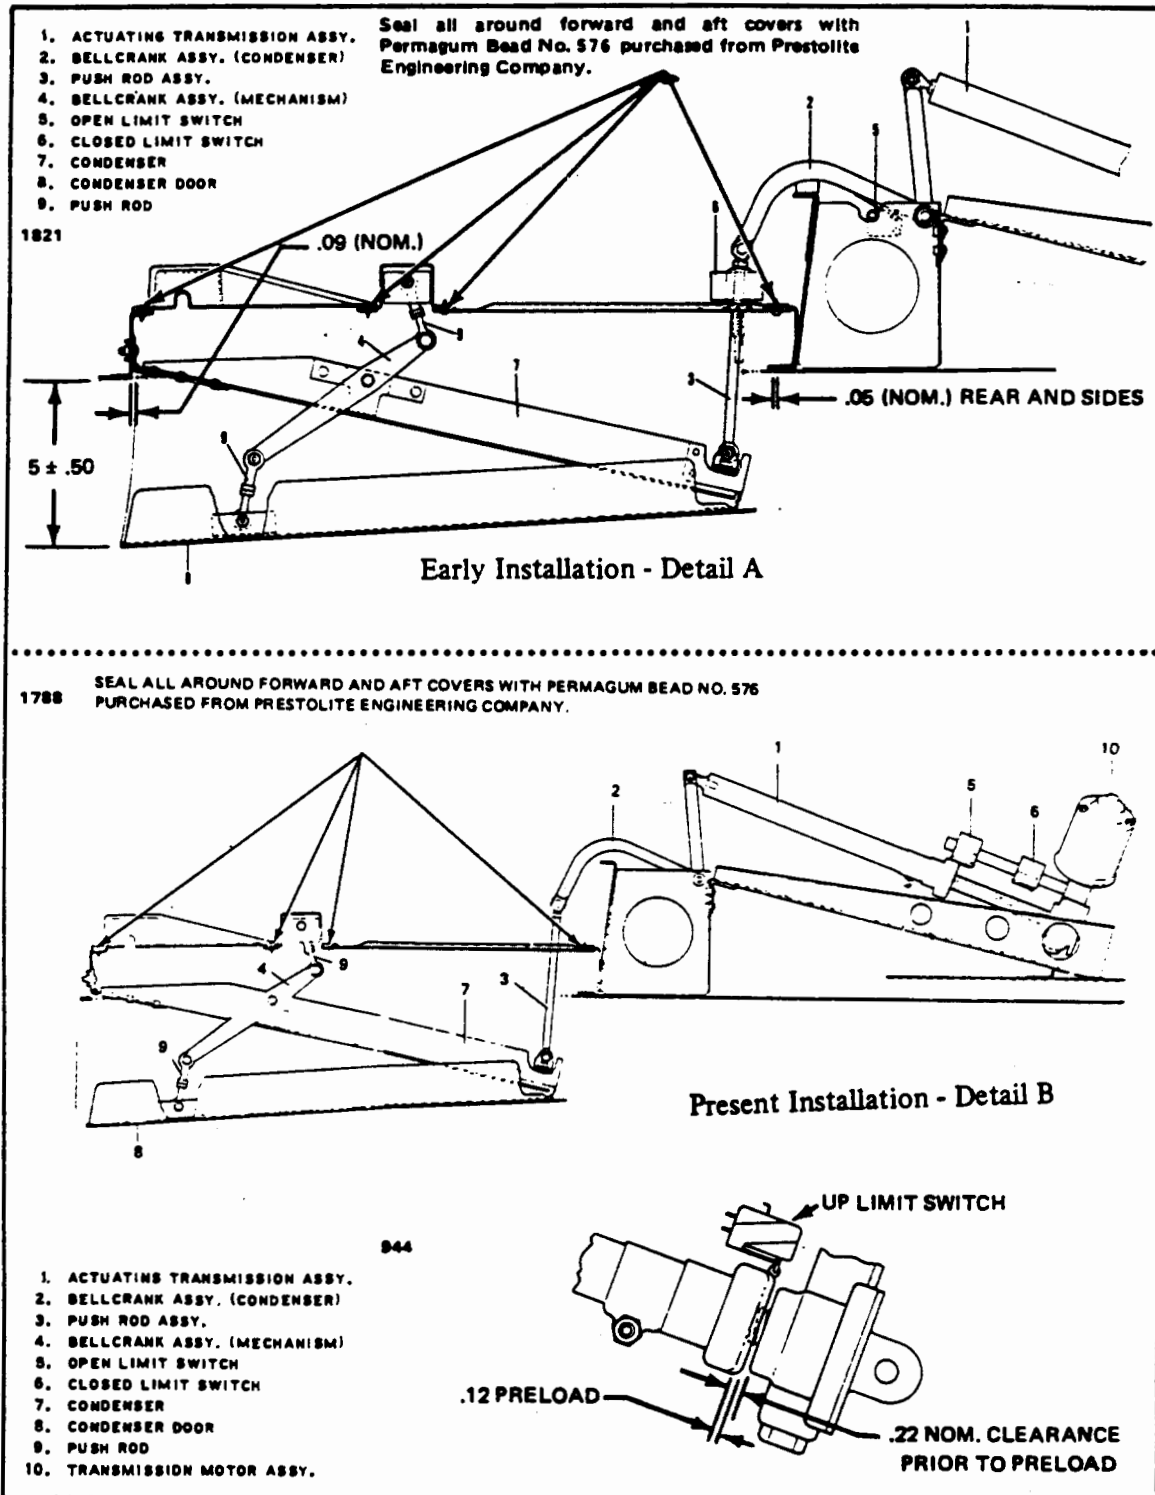

Figure 14-12. Condenser Air Scoop Installation
- b. Place the condenser and frame assembly to the fuselage frame mounting bracket and insert the (8) screws into the piano hinge.
- f. Seal all around forward cover panel (and aft cover panel if removed) with Permagum Bead No. 576 purchased from Prestolite Engineering Company. (See Figure 14-12.)
14-34. CONDENSER DOOR ACTUATOR. The actuator is on a bracket mounted between two bulkheads in the tail cone. It is coupled to the condenser assembly through a bellcrank mounted to a bracket on the bulkhead aft of the condenser. The actuator travel is controlled by two limit switches. On early installations the down switch is located on the inboard bellcrank support and the up switch on the condenser frame. On later installations both the up and down switches are located on the actuator. Refer to Figure 14-12 for the switch locations of the particular installation.
14-35. CONDENSER ASSEMBLY RIGGING INSTRUCTIONS. (Refer to Figure 14-12.)
There are two installations of this system. The first or early installation had the limit switches located as shown in Figure 14-12, Detail A. The second or present installation has the limit switches located as shown in Figure 14-12, Detail B. The instructions covering the adjustment of the limit switches will be covered in separate steps.
Early Installations: (Refer to Figure 14-12, Detail A.)
Present Installations: (Refer to Figure 14-12, Detail B.)
a. Adjust open limit switch (5) to open the condenser door (8) $5.00 \pm .50$ inches when measured from the leading edge of the door to the fuselage skin.
b. Adjust the push rods (9) so that a vertically measured gap of .16 of an inch exists along the trailing edge of the door at the instant the forward edge of the door becomes flush with the fuselage skin.
c. With the door fully closed adjust the "CLOSED" (6) limit switch so that the actuator (1) travels an additional .12 of an inch after the door is fully closed, this is necessary to preload the mechanism. Refer to Figure 14-12, Detail B - View AA.